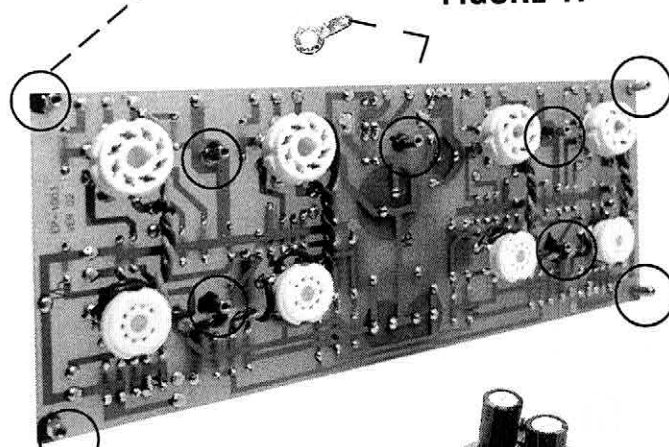

FIGURE 18
- #102(✓) Install the 9 threaded stud spacers (12mm) on the PCB-AMP, in the hole provided (figure 18). The spacers must be on the side of the PCB's foil. If threaded stud are 10mm longer, you must use 2 nuts, one on each side of the PCB (figure 17). On the central threaded stud spacer, **install one solder lug (on the parts side)** before putting on the nut. It would be advisable to secure the nuts with some locking adhesive.